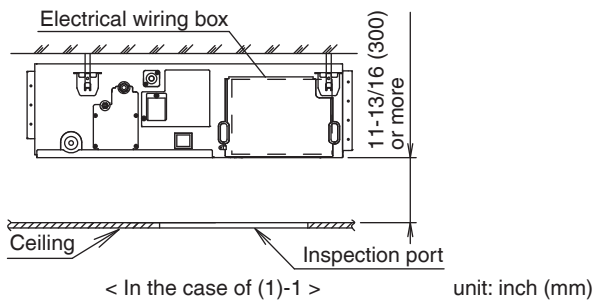
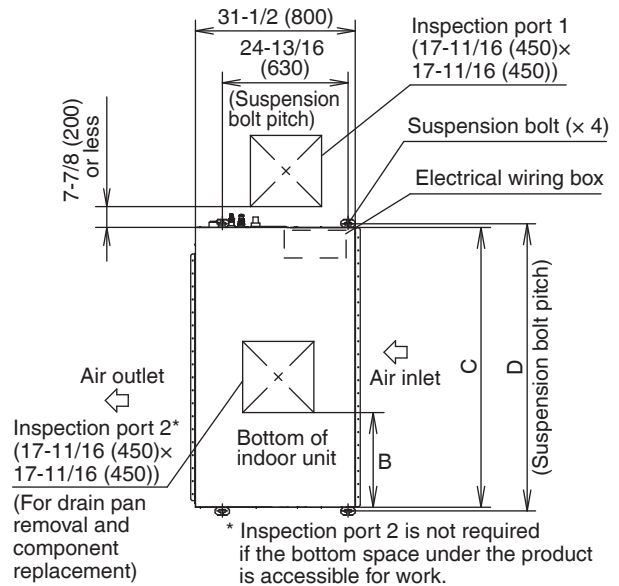

Fig. 3-1
Fig. 3-2
1. Inspection ports 1 and 2 (17-11/16 inch (450mm) x 17-11/16 inch (450mm)) (Fig. 3-2) and a minimum space of 11-13/16 inch (300mm) at the bottom of the product (Fig. 3-1).